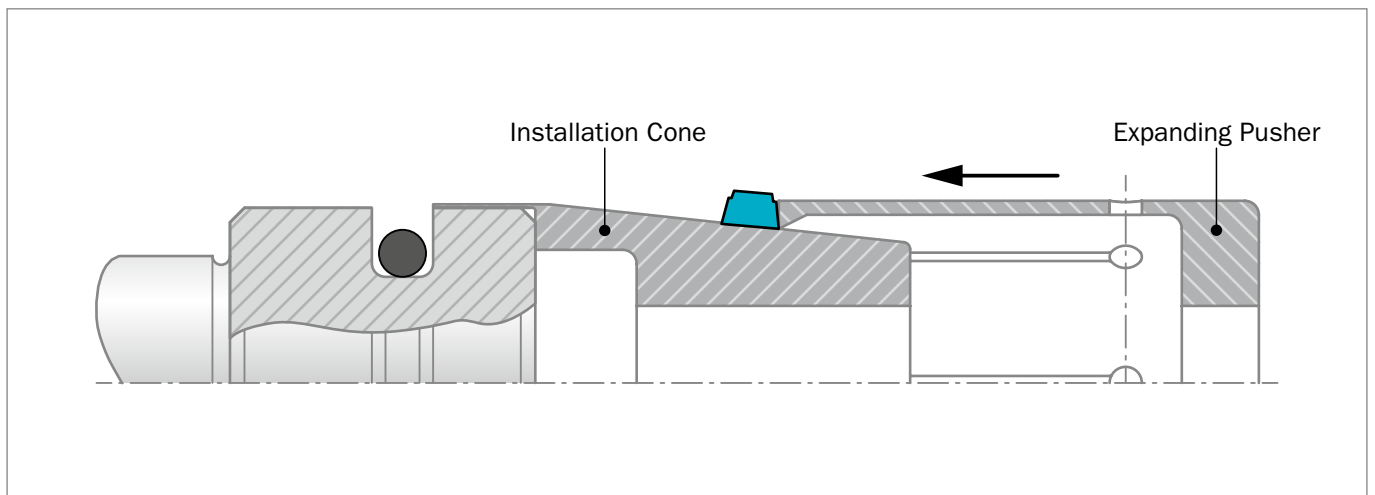
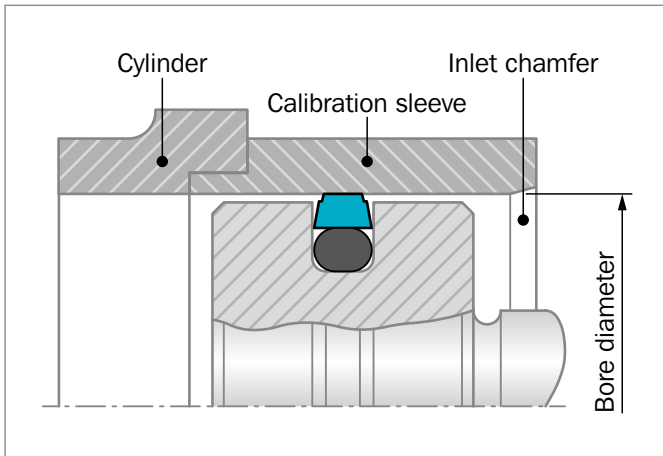

Figure 95: Expanding the Turcon® or Zurcon® sealing element using an expanding sleeve over the installation cone
Figure 97: Sizing the sealing element with calibration sleeve
- Ensure the cylinder tube has a lead-in chamfer; if not, use a calibration sleeve, see Figure 97.
The sequence of installation is illustrated in Figure 95 to Figure 97. Note, however, that the installation of Turcon® seal elements should be performed quickly in order to ensure optimum recovery of the seal ring.
The same installation procedure for piston Glyd Ring® may be used for AQ Seal® and AQ Seal® 5 see pages 247 to 249 except for AQ Seal® 5, which uses different groove sizes. However, the Quad-Ring® or Bean Seal should not be fitted until AQ Seal® or AQ Seal® 5 have been calibrated - see Figure 97.